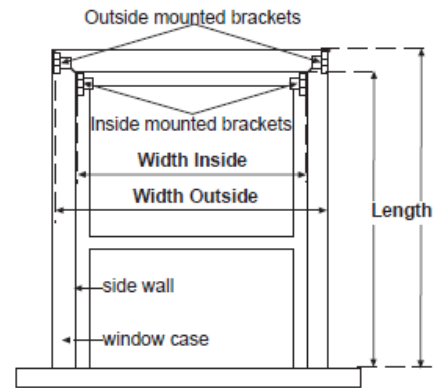
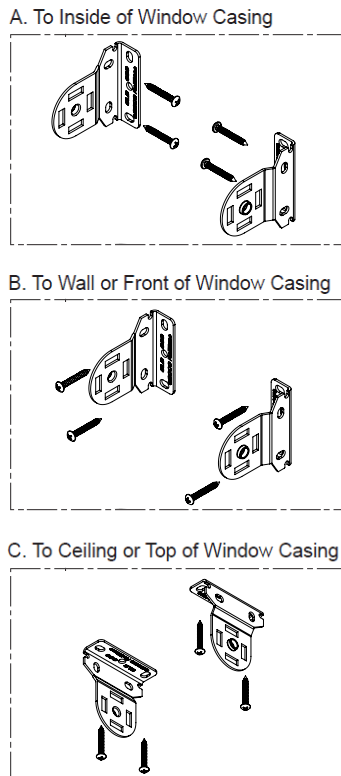

Figure 4. Measurements on a window
Figure 6. Install Brackets
Step 1. See **Figure 4**.
Step 3. Mount the brackets to the window casing according to the marked locations in **Figure 4** (see page 1). **Figure 6** shows the proper bracket placement options. The left and right Skyline brackets are identical so the motor can be mounted on the left or the right side.